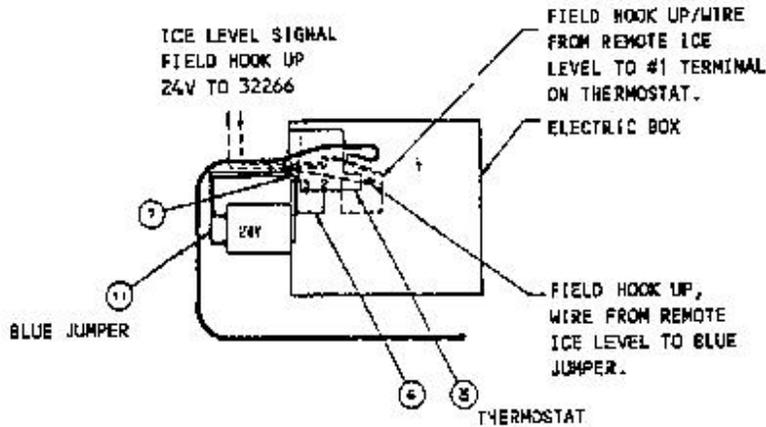

Figure 1.
2. Remove upper panel of the Remcor dispenser and locate the electric control box in the upper right-hand corner. Mount the Thermostat (P/N 31001) with the screws (P/N 70178) as shown in Figure 1.